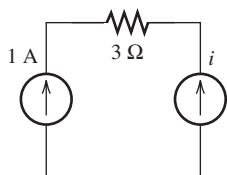

FIGURE P2.60 Circuit for Problem 2.60.
2.60 (B) In Figure P2.60, what is the value that i can take?